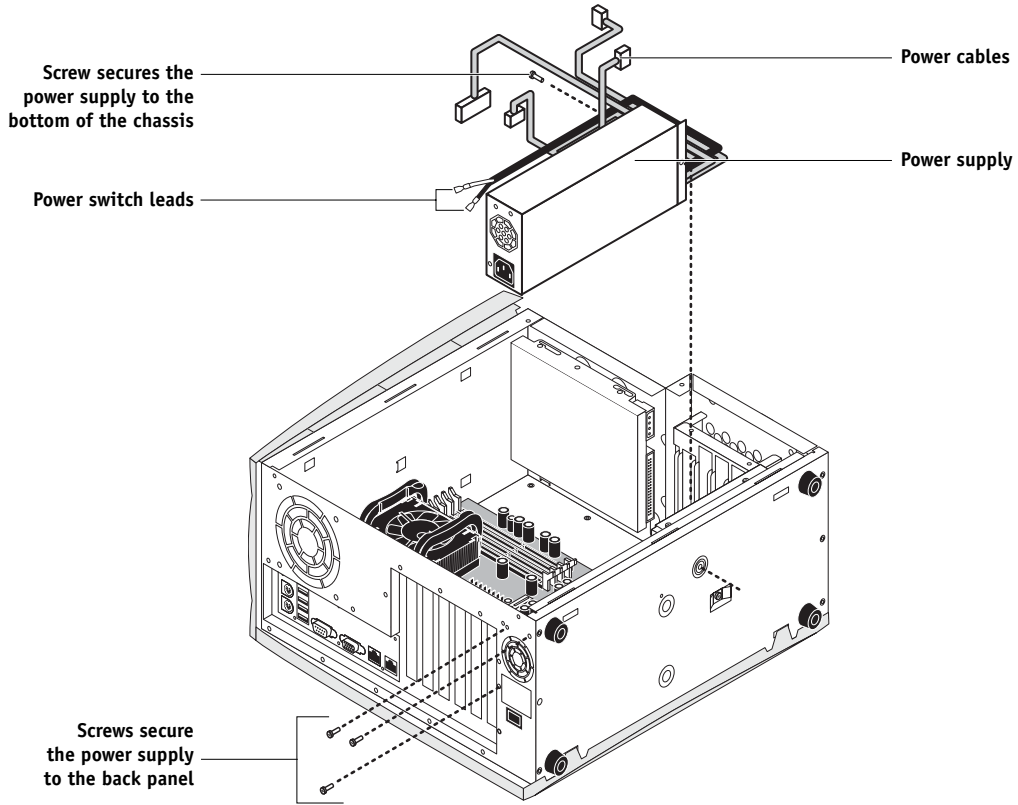

FIGURE 4-26 Removing/replacing the power supply
7. Remove the screws that secure the power supply to the chassis (see Figure 4-26 on page 4-47).